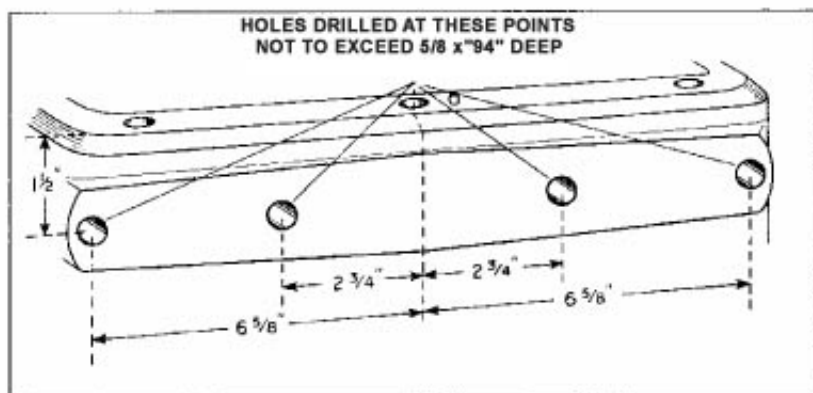

Figure 49
- (d) Top rear face of the rear axle housing. No holes are drilled and if it is necessary for implements to be attached at this point the holes must be drilled in accordance with Fig. 49.